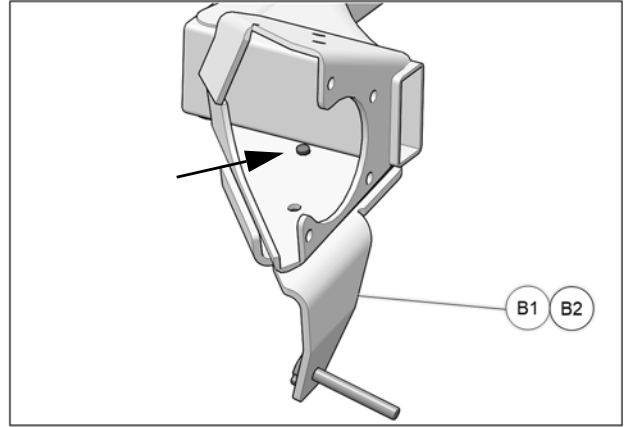

Fig. 7
6. Align locating pin and hole in bracket (**B1-B2**) with existing holes in trailing arm, as shown below in Fig. 7